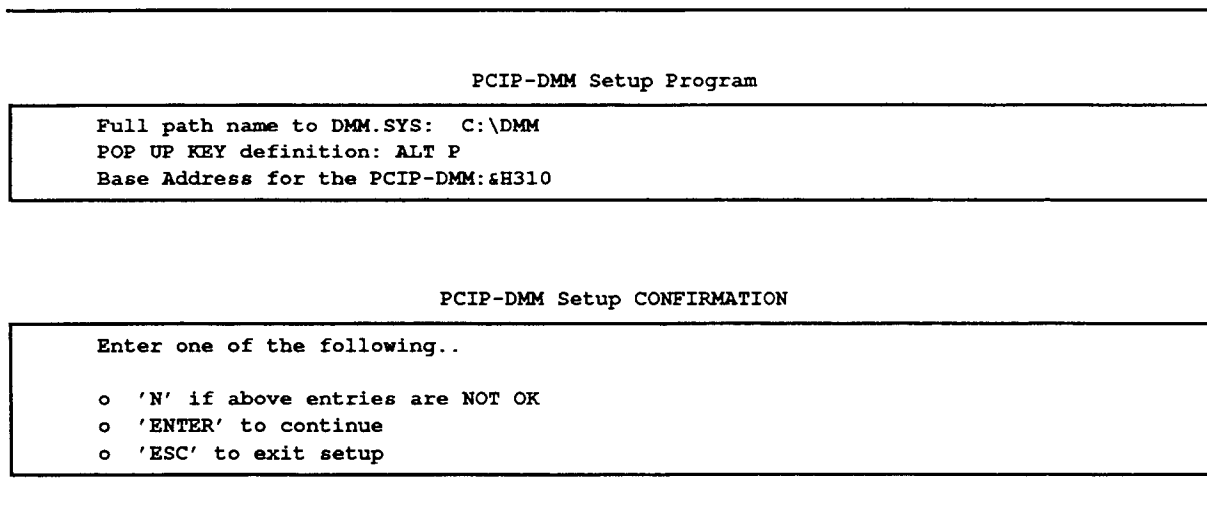

Figure 3-12. Confirming the PCIP-DMM/A Setup
8. You will now be asked to confirm your selections. (See Figure 3-12.)